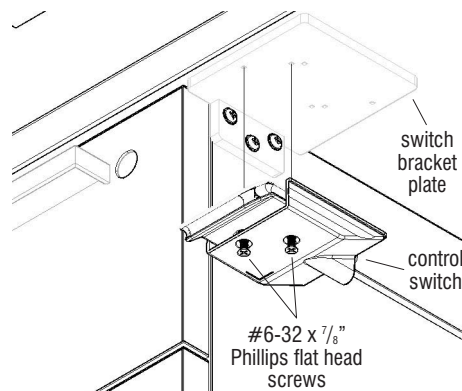

Figure 6
4. Align the mounting holes of the control switch with the mounting holes on the switch bracket plate. Secure switch to the plate using two #6-32 x 7/8" Phillips flat head zinc screws (Figure 6).